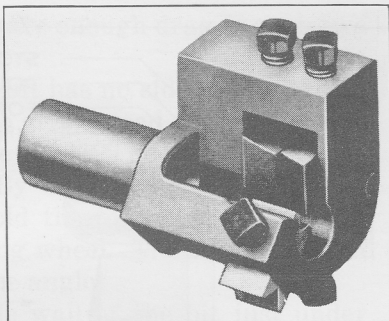

Fig. 6. Box Tool with V-block back rest
**Sharpen Box Tool Bit.** This box tool, shown in Fig. 6, has two bits mounted side by side. Since we are rough turning